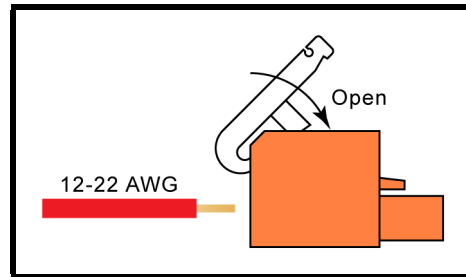

Figure 3 - Tension Clamp Lever
**Tip** The power, input and output wires all terminate in tension clamp connectors that are detachable. The cable installation can be performed more easily if the female connectors are first detached from their male halves that remain secured to the FLD-2 circuit board. Figure 3 illustrates the proper use of the tension clamp lever.